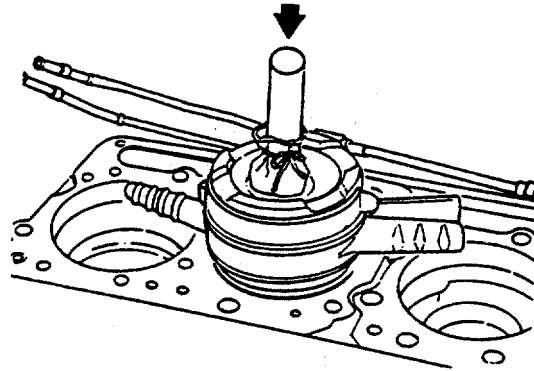

FIGURE 3-77. Using Piston Ring Compressor.
- f. Use piston ring compressor to compress the rings (FIGURE 3-77) .
- h. Using piston ring compressor (FIGURE 3-77), install the connecting rod in the cylinder liner, and push the piston down. If the piston does not move freely, remove the piston. Inspect for broken or damaged rings.